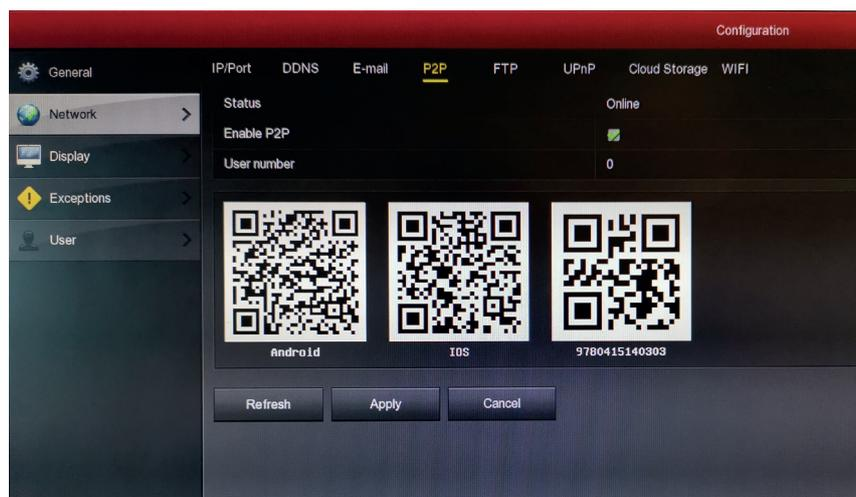

Fig.26
- To find the code in the recorder's menu, click on "Configuration", and then "Network" in the main menu and go to the P2P tab (Fig. 26) to access the recorder's encoded serial number in the form of a QR code (3 from the left).
The recorder's serial number can be also entered manually. The serial number can be found under the QR code in the recorder's menu (Fig. 26) and on the sticker at the bottom of the housing.